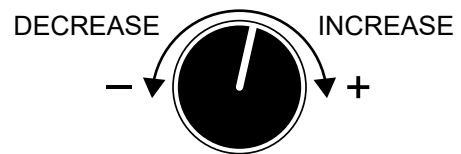

Figure 56. Voltage Regulator
7. If the voltage is not within the specified tolerance, use the **voltage regulator** (Figure 56) to increase or decrease the desired voltage.